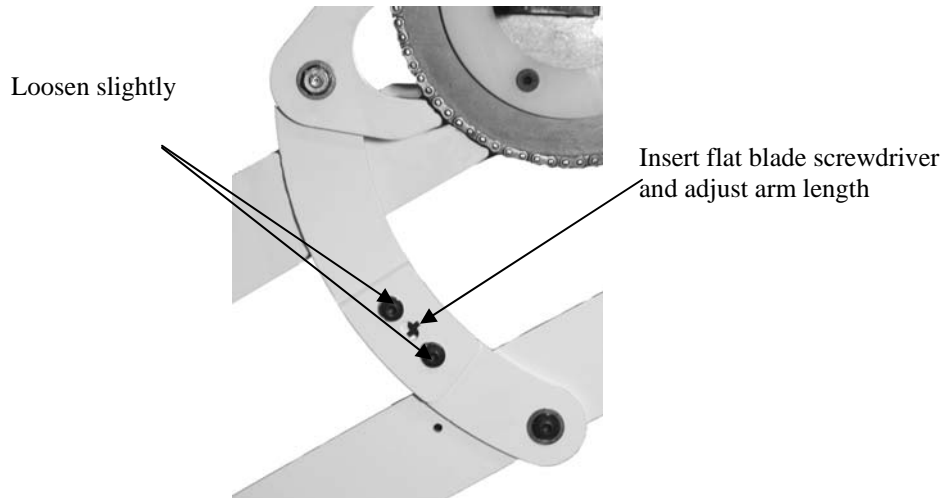

Figure 4
- c. Slightly loosen two ¼-20 X 3/8" hex head screws (See Figure 4).